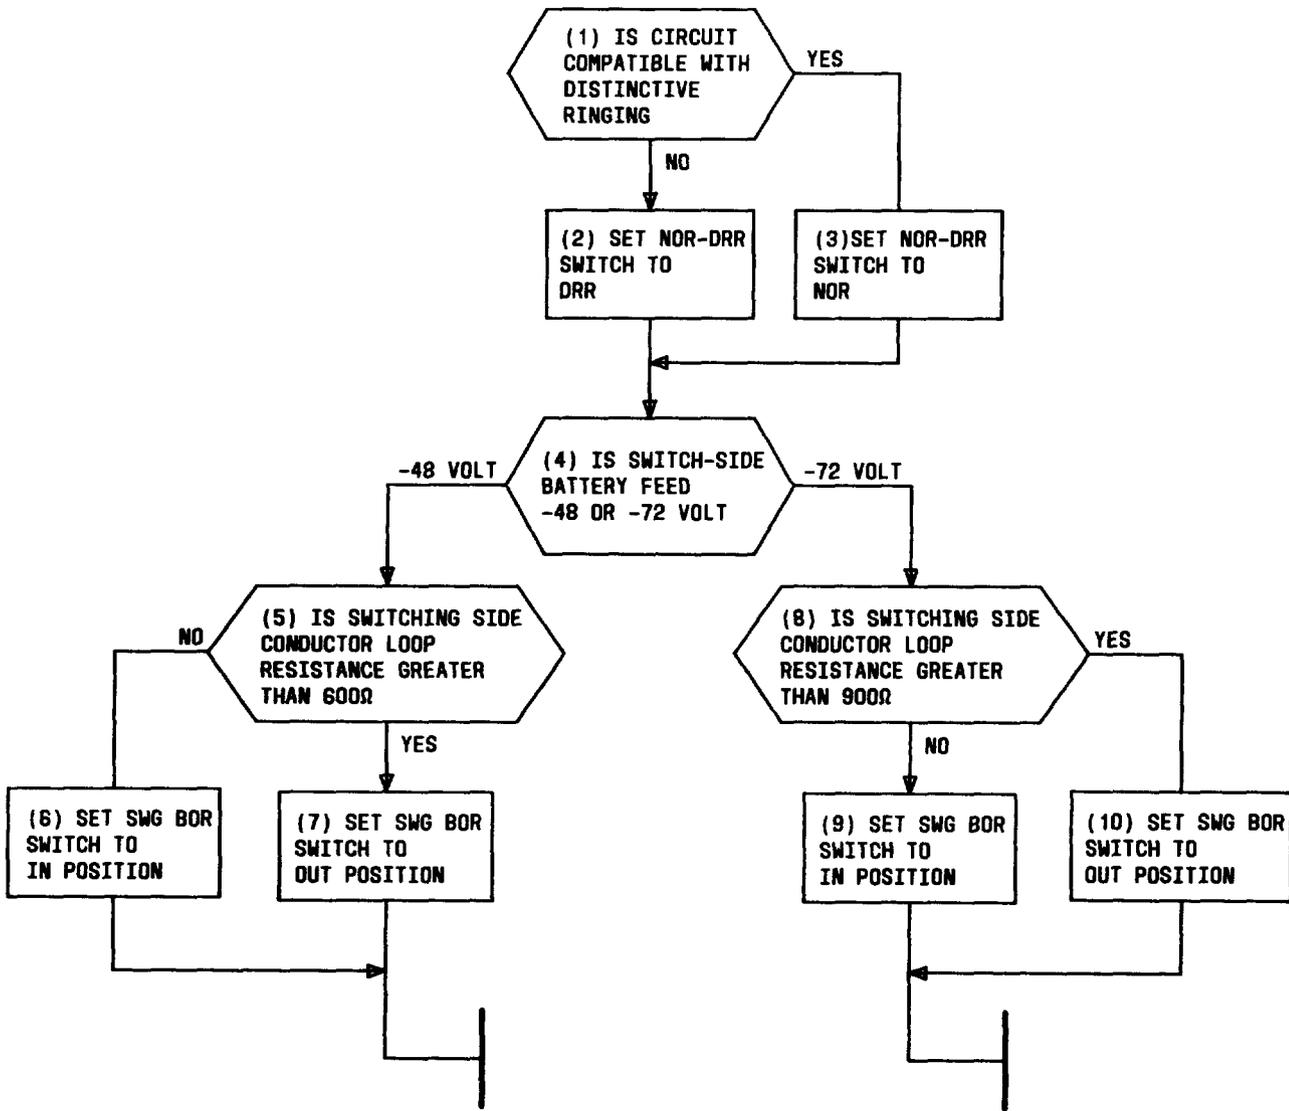

Fig. 13—Signaling Switches Flowchart
13.01 The following switches provide the signaling options for the J99343GG, L1 & L2 and GK CFUs. These switches must be properly operated before placing the unit in service. If this information is not available, Fig. 13 provides a flowchart for determining these switch settings.